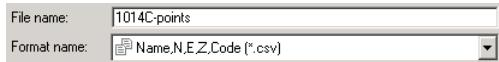

Figure E-36. Select the Coordinate File Format
1. Click **Save As** on the toolbar. Select the ‘Name,N,E,Z,Code’ format and enter the name of the created file ‘1014C.tlsv’ (Figure E-36).